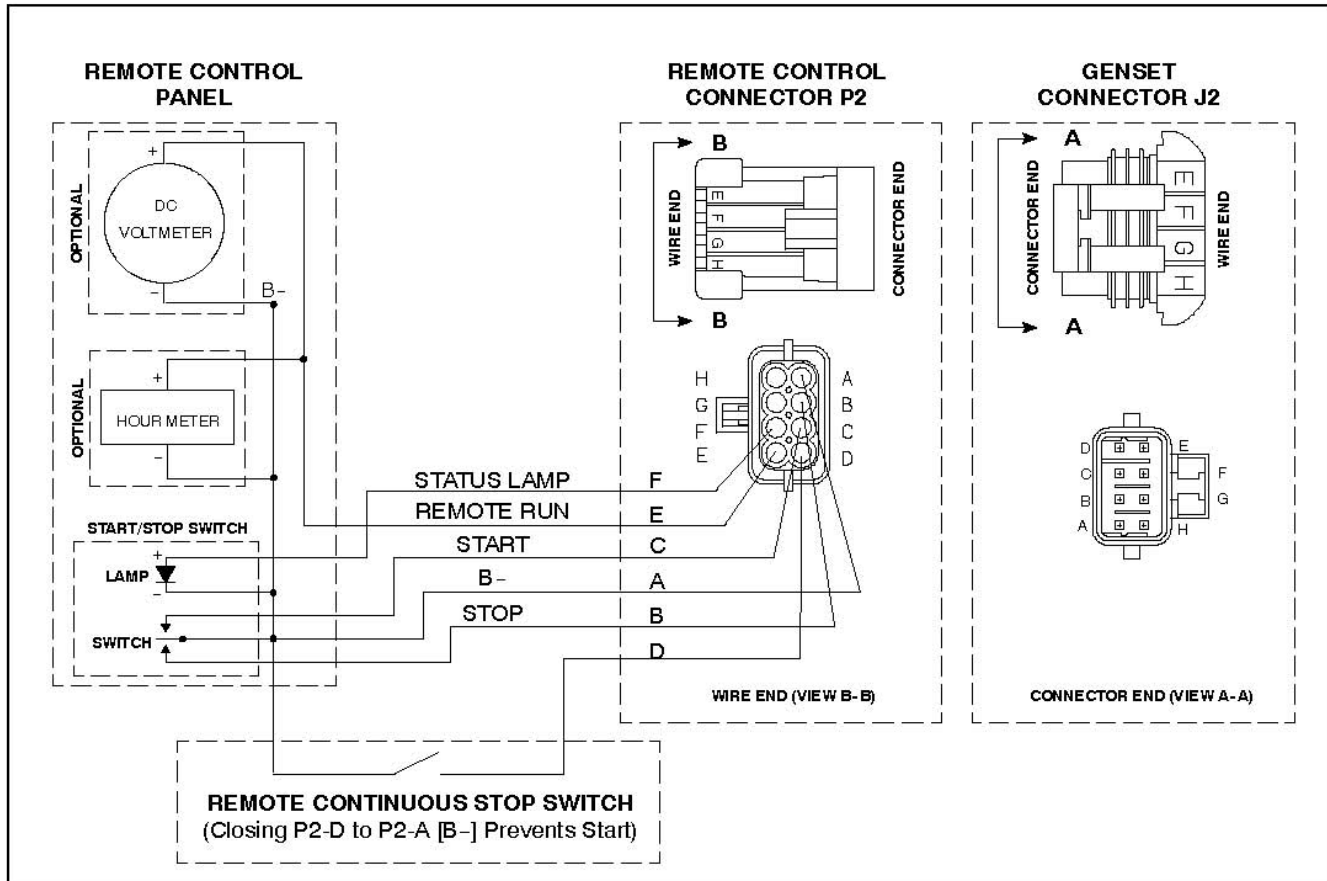

FIGURE 32. SCHEMATIC OF TYPICAL REMOTE CONTROL CONNECTIONS
2. Refer to Figure 32 to fabricate the remote control panel and/or wiring harness when not using the accessories available from Onan. Mark the remote control end of each lead to identify the connector pin number at the generator set. Use insulated 18 AWG copper conductors for distances up to 30 feet (9 meters) and heavier gauge conductors for greater distances. Protect the wiring with full-length flexible sheathing.